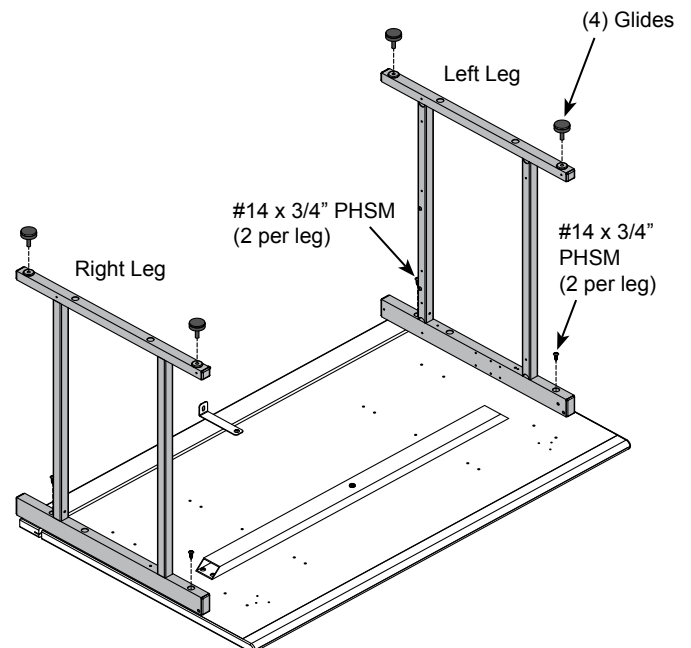

Figure 3
1. Attach each leg to the workspace with (2) #14 x 3/4" PHSM screws. Do not tighten screws completely yet. **Figure 3.**
2. Install the (4) glides to the bottom of the legs. The glides can be adjusted later to keep the desk level on uneven surfaces.